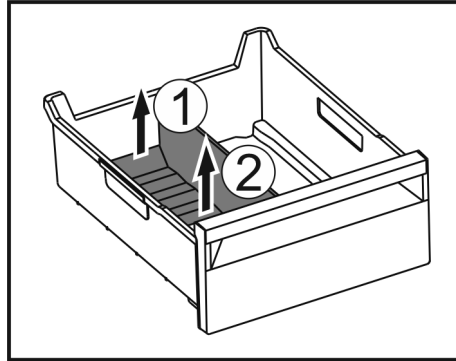

Fig. 186
- ▶ Lift the rear part of the ice compartment divider. Fig. 186 (1)
- ▶ Remove the ice compartment divider upwards. Fig. 186 (2)